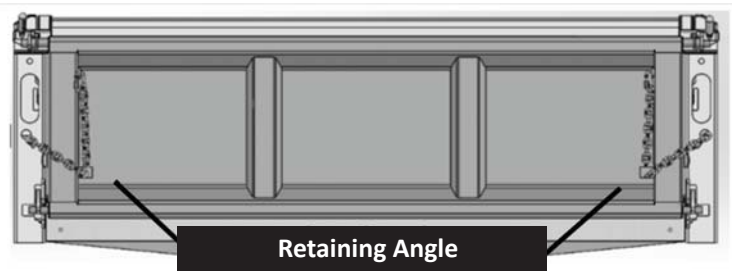

FIGURE 7
Step 3: The amount the tailgate will open bottom up can be limited by using the tailgate chains. Limiting the amount the tailgate opens bottom up, a chain on each side of the tailgate is run first through its respective tailgate retaining angle and then to its respective chain clot located on the rear corner post as shown in Figure 7.